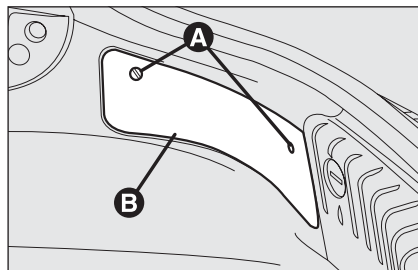

fig. 30
To change these bulbs, open the boot, operate devices **A**-fig. 30 and remove the lid **B**.
- ☐ open the boot and the lid as described previously (see **fig. 30**);